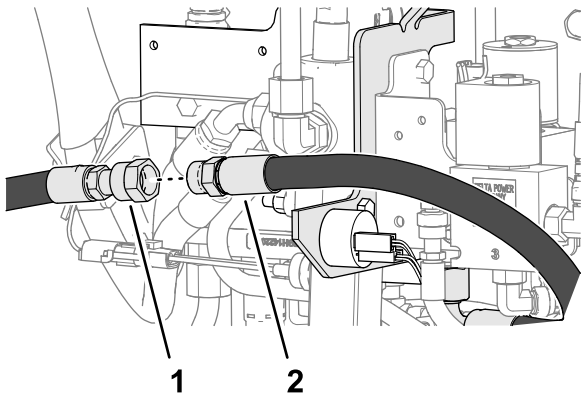

Figure 26
2. Assemble the straight fitting of the 41.9 cm (16-1/2 inches) hose to the fitting of the hose that you marked "Pump" (Figure 26).